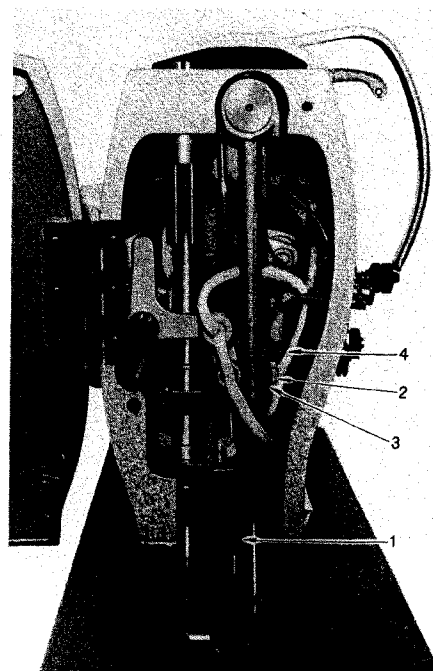

Fig. 19
Holding the bottom of the needle bar rock frame (1, Fig. 19), move it as may be required for getting the correct position to the feeder.
To adjust this, loosen the set screw (2, Fig. 19), move the setting position of the needle bar and the needle bar connecting stud (3, Fig. 19) to get the correct position. After this, tighten the set screw.
To strengthen the tension of the controller spring, loosen the serrated nut (5, Fig. 9) and the screw (4, Fig. 19) and turn the tension stud (6, Fig. 9) slightly to the left with a screw driver, or to lighten the tension, turn to the right.
3. Loosen the needle bar connecting stud set screw (2, Fig. 19) and turn the needle bar to correct the needle clamp's direction.